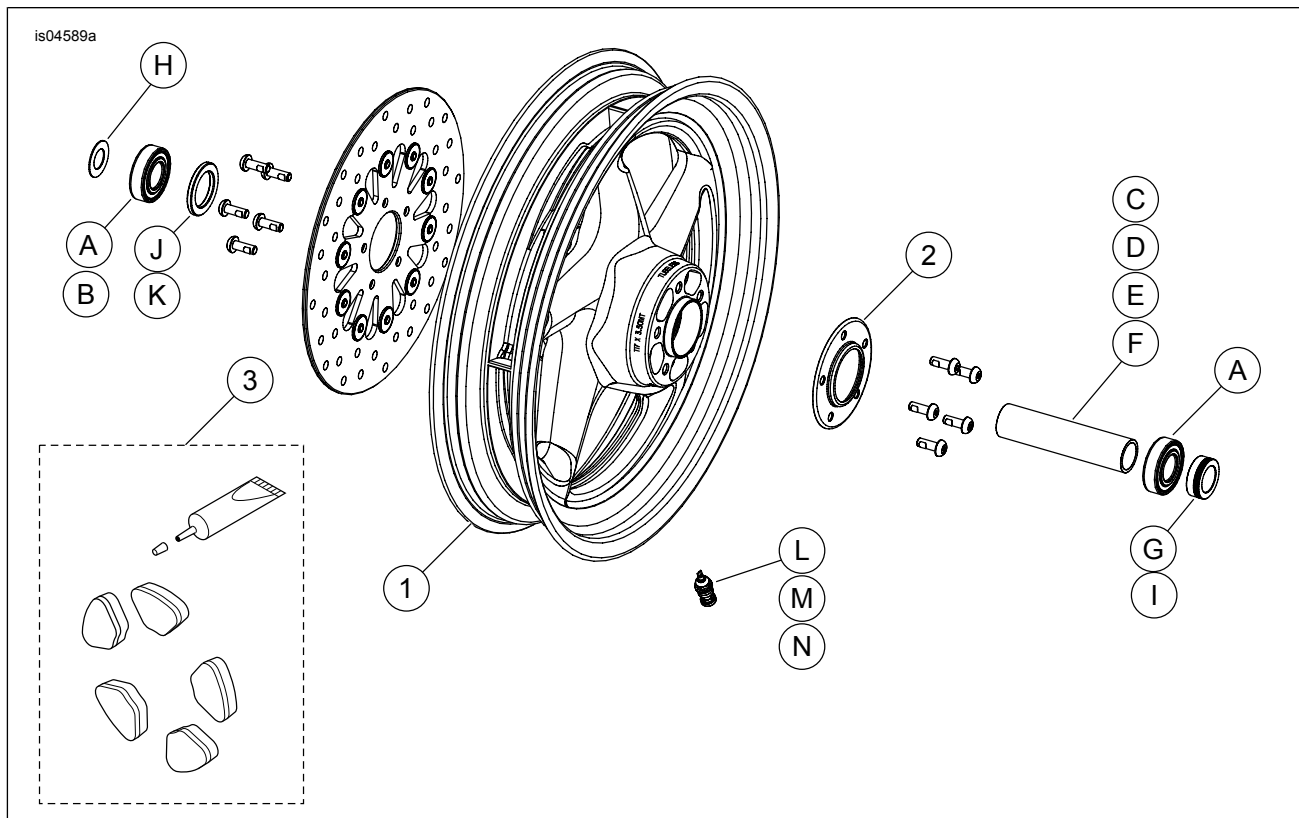

Figure 2. Front Reaper Wheel (21-inch wheel shown)
2. See Figure 2. Install valve stem assembly (L ) on wheel. Refer to TIRES in service manual.